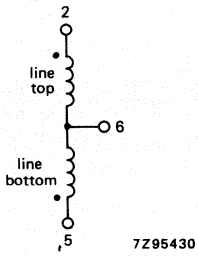

Fig. 2a Line coils.
**Line deflection coils, series connected (Fig. 2a), terminals 2 and 5**